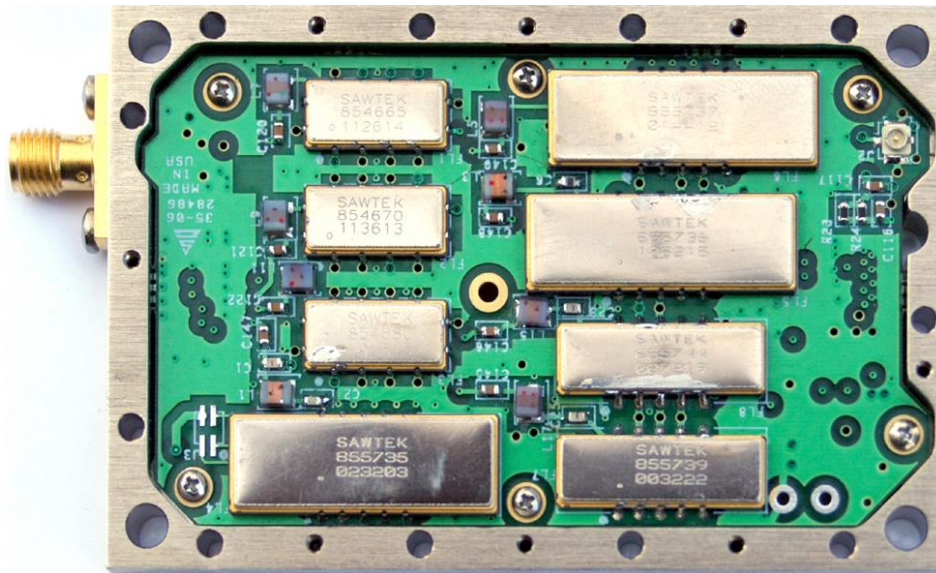

Figure 80: 70 MHz IF Module in 2" x 3" Chassis
The receiver's integrated IF filter module, shown in Figure 80, includes eight (8) SAW filters, ranging in bandwidth from 250 kHz to 40 MHz in approximately one-octave steps. The standard eight filters are 250 kHz, 500 kHz, 1 MHz, 2 MHz, 4.5 MHz, 10 MHz, 20 MHz, and 40 MHz. These filters serve as anti-aliasing filters ahead of the A/D converter in the demodulator itself. In addition, they can provide an added measure of adjacent channel interference rejection.